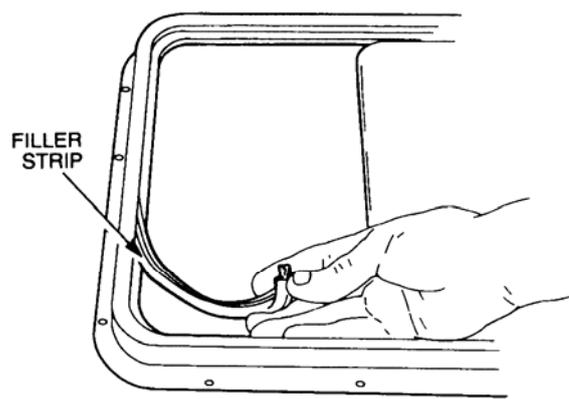

Figure 40 Forward Filler Strip Removal
- Remove the rubber filler strip from the inside groove at the front of the window frame (refer Figure 40).
- ff. Fit the filler strip to the outer channel at the sliding glass end of the frame (refer Figure 40).